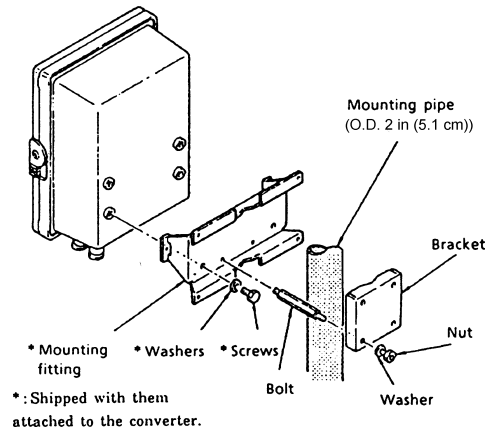

Figure 30: Pipe Mounting Procedure
- 2) Attach firmly to the pipe in the procedure shown in Figure 30 using the enclosed mounting hardware.